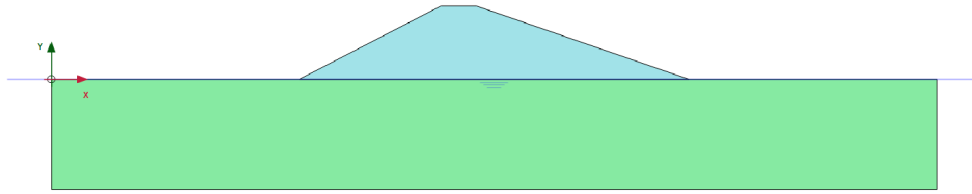

Figure 2-5: Configuration of phase 1
- 2 Right-click on the embankment and from the popup menu select the **Activate** option to activate the soil representing the embankment. The model of phase 1 is shown in Figure 2-5 \(p. 45\).